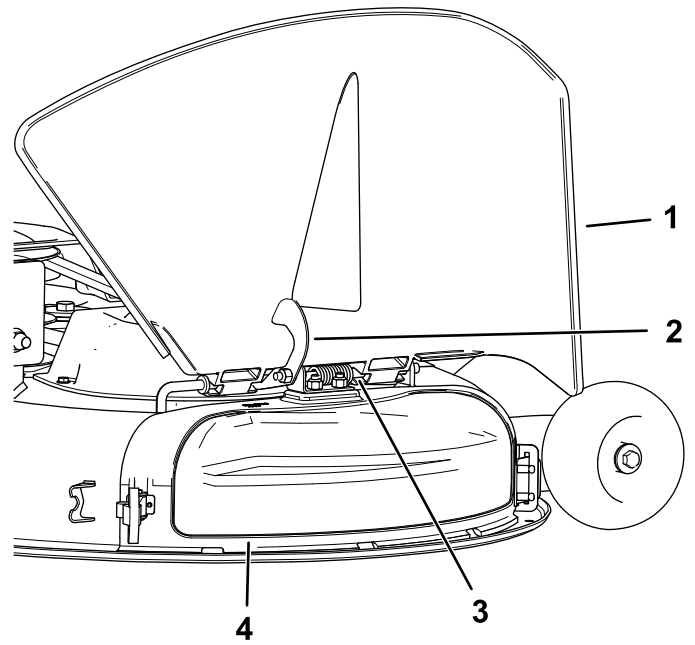

Figure 4
4. On the top of the discharge cover, engage the hook-shaped latch around the pivot rod of the deflector assembly (Figure 4).
4. Release the hook-shaped latch on top of the discharge cover from the pivot rod (**Figure 4**).